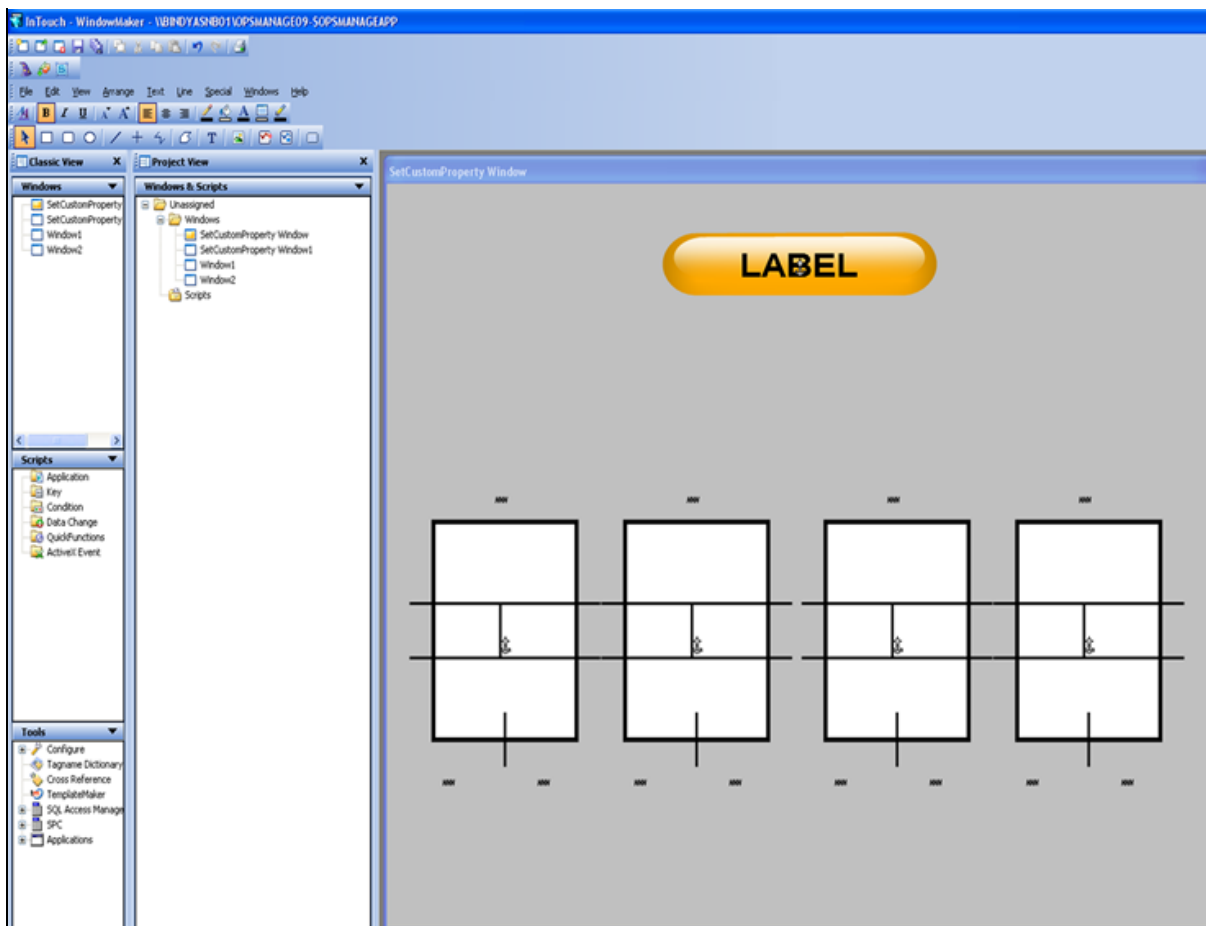

FIGURE 19: FOUR SYMBOLS IN WINDOWMAKER
6. Figure 19 (below) shows the WindowMaker™ display.